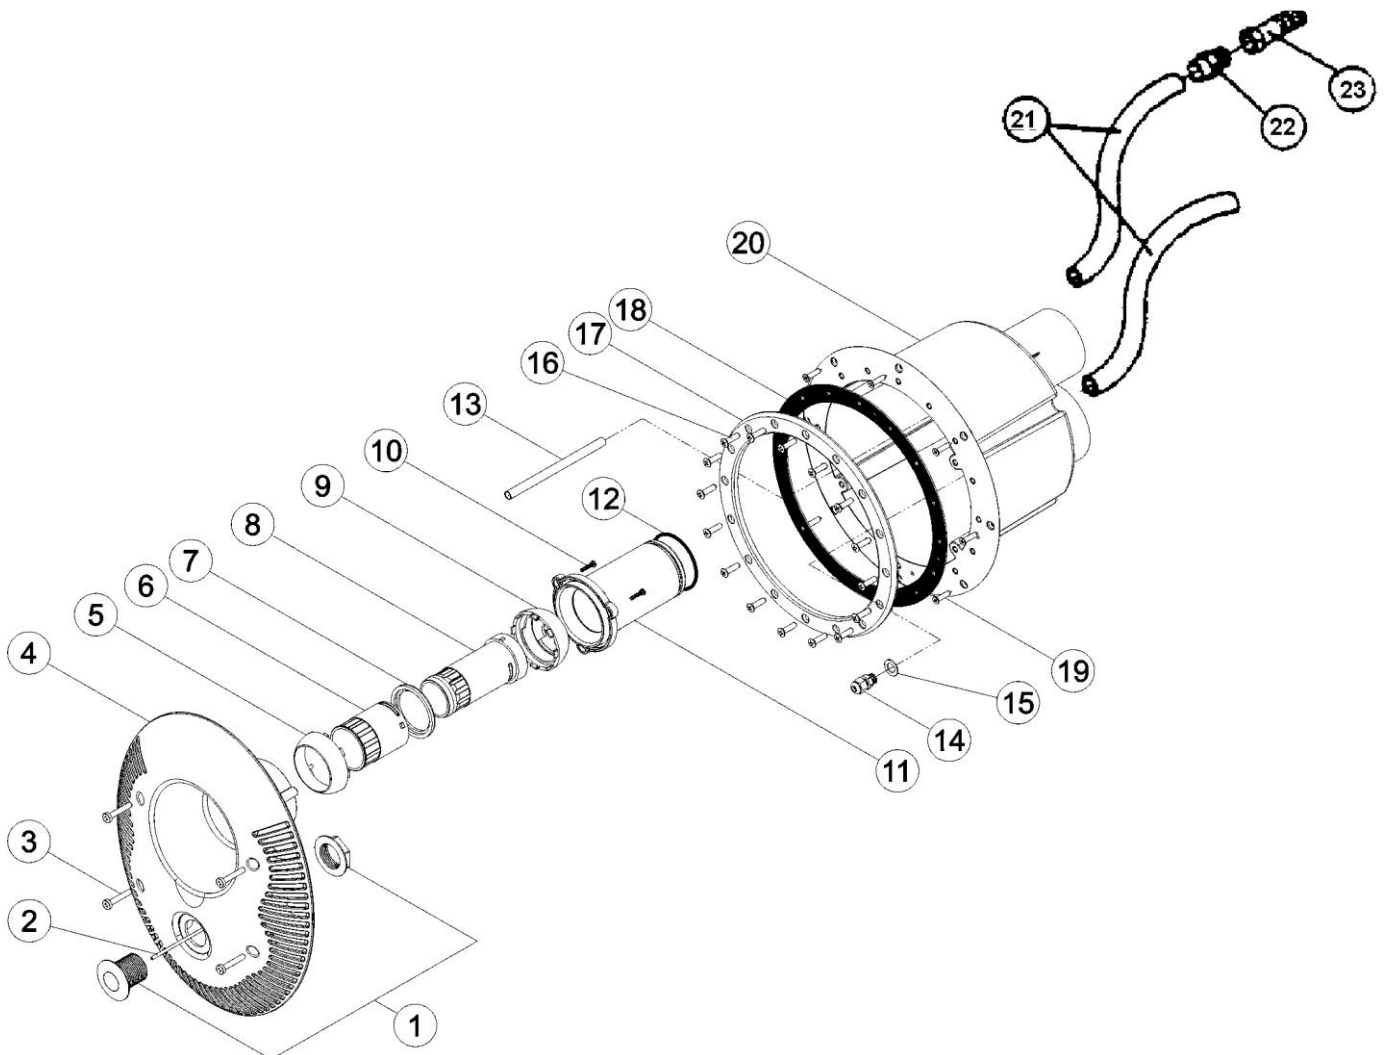
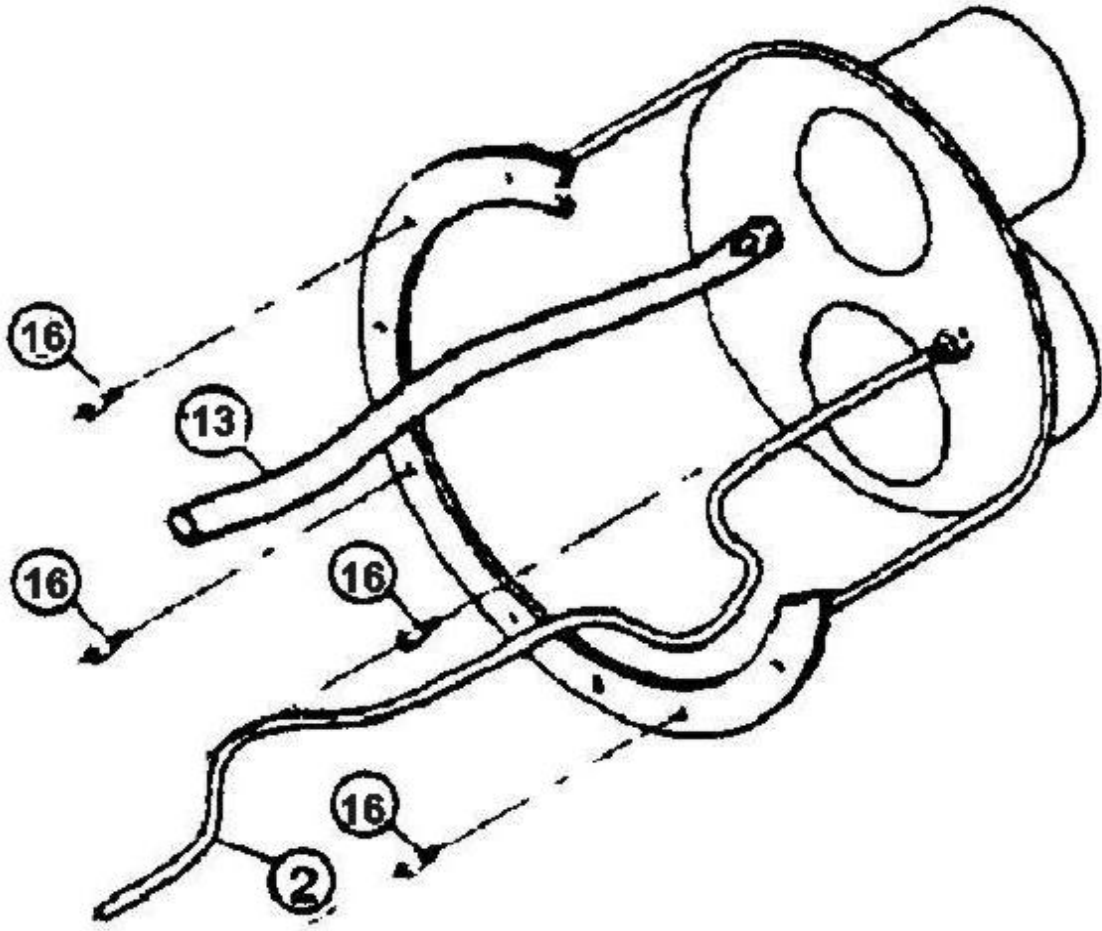
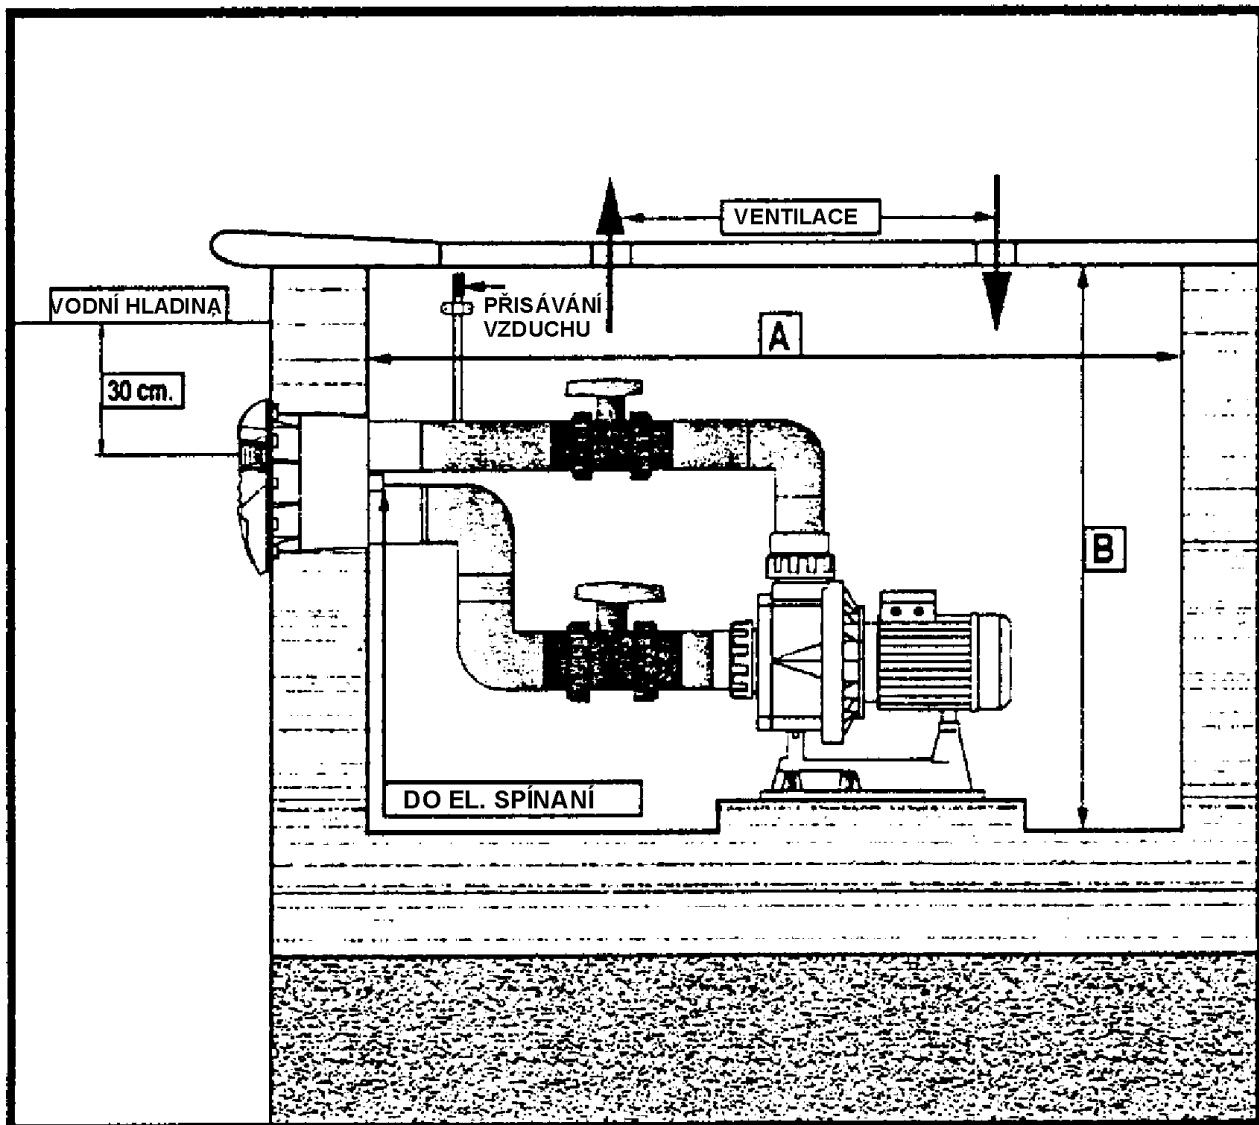

Fig. 3
Fig. 4
Fig. 6
Stick the hoses (pos. 21 Fig. 3) to the counterflow body (pos. 20 Fig. 3) and pass them into the technological space (well). Protect the hose ends against concrete. Install the counterflow body pos. 20 Fig. 3 acc. to Fig. 2a into the hole in concrete wall or cladding for concreting without flange and seals. As soon as the body is fixed into the wall, follow the instructions specified in section 4 and install pneumatic and air lines.
Tighten the seals (pos. 18, Fig 3) to the counterflow body (pos. 20, Fig. 3) by means of 2 screws (pos. 19, Fig. 3); please note that the pool foil may be positioned between the two seals (Fig. 2b). Finally install the flange (pos. 17, Fig. 3) and tighten the screws (pos. 16, Fig. 3), only then cut the foil from the flange inner side.
Prepare a hole of diameter 270mm in the pool wall in such manner that the nozzle centre is ca 30cm below the water level, s describe in section 2 and Fig. 1. Fit the counterflow body pos. 20 Fig. 3 from the pool inner side into the prepared hole. Fix the body into the pool wall as shown on Fig. 2c by means of self-cutting screws pos. 19 Fig. 3.
Tighten seals (pos. 18, Fig. 3) to the counterflow body (pos. 20, Fig. 3) by means of 2 screws (pos. 19, Fig. 3), install foil, then fix the flange (pos. 17, Fig. 3) and tighten the screws (pos. 16, Fig. 3), only then cut the foil from the flange inner side.
Stick the seals (pos. 18, Fig. 3) from the pool wall outer side and prepare holes for 16 screws of the flange (pos. 16, Fig. 3) acc. to this template.
Prepare the counterflow body (pos. 20. Fig. 3) from the pool outer side and fix the flange (pos. 17, Fig. 3) with screws (pos. 16, Fig. 3) from the inner part as shown on Fig. 2d.
Stick the reduction piece (pos. 22, Fig. 3) to the hose serving as the air line and install the check valve (pos. 23, Fig. 3). It is important to locate the check valve to the technological space wall to prevent suctioning of dirt (see Fig. 6). Finally fix the flexible tube (pos. 13, Fig. 3) by pressing it into the nozzle inside the counterflow body (see Fig. 4).
This line consists from hose (pos. 21, Fig. 3) serving as protecting sleeve for pneumatic switching hose. Position the pneumatic switching hose into the pneumatic line (hose pos. 21, Fig. 3) and lead its end through the hole in the counterflow body (pos. 20, Fig. 3), tighten it by the penetration sleeve (pos. 14).
The hose end (pos. 2, Fig. 3) shall be connected to the pneumatic switch (pos. 1, Fig. 3) located at the face of the V-JET counterflow system.
Complete face cover is supplied in assembled state and includes parts pos. 1 to 12 (see Fig. 3). An exception is transparent pneumatic hose (pos. 2), which yet forms part of the counterflow body (see Fig. 4).
- Connect hose pos. 2, insert it to the mandrel of pneumatic switch (pos. 1, Fig. 3).
- Connect hose pos. 13, insert it to the nozzle at the face cover.
- Connect the complete face cover with the counterflow body, note that the ring (pos. 12) shall be inserted into neck of the outlet hole (diameter 75mm).
- Tighten four screws (pos. 3, Fig. 3). As soon as they are securely tightened, the face cover is ready to use.
Before the V-JET system is installed, please consider dimensions of technological space (well), where the counterflow is to be located. Make use in advance that there will be no spatial problems during the pump installation. Minimum recommended sizes of the technological space needed for installation of the system - see Fig. 6 + table.
The pneumatic hose (pos. 2, Fig. 3) is intended for connection to the electric-pneumatic switch at the electric-pneumatic panel (switchboard). It must be checked, whether the hose is not bent at any point.